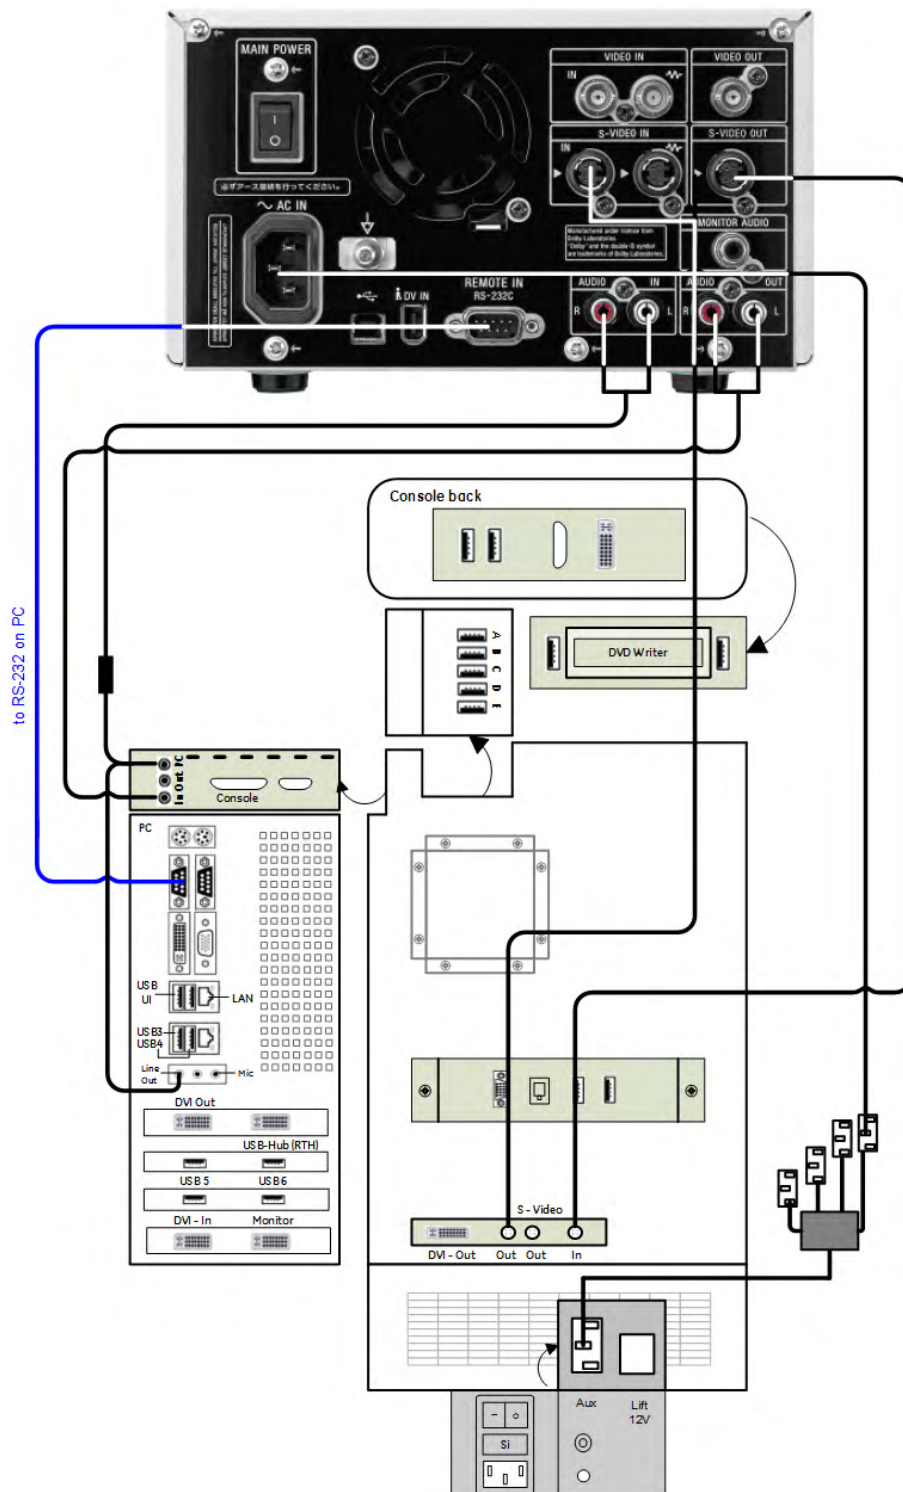

Figure 3-11 DVD Recorder connection - DFI PC-Motherboard
- Figure 3-11 "DVD Recorder connection - DFI PC-Motherboard" on page 3-21